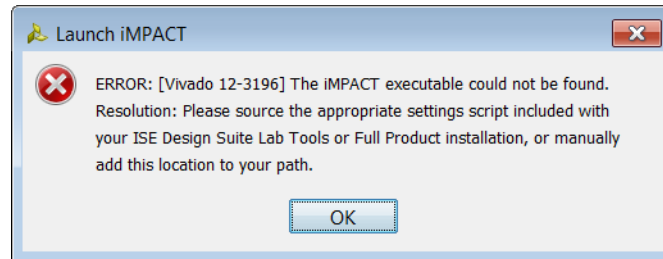

Figure 2-11: Problem locating\_iMPACT executable
**IMPORTANT:** To launch the iMPACT tool, the ISE Design Suite or ISE Lab Tools software needs to be installed on your system and the iMPACT tool needs to be accessible in your PATH environment variable. If you do not meet these two requirements, you will see the error dialog shown in Figure 2-11 when you try to launch the iMPACT tool.